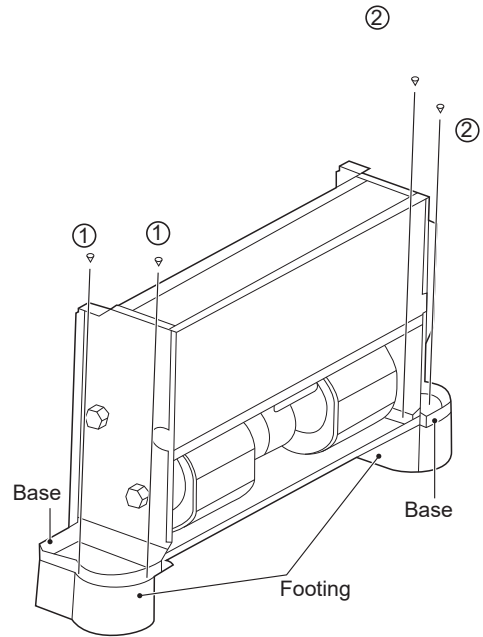

Figure 5-3
The footings shown in Figure 5-3 are optional. You can purchase them separately and install them as follows:
2. Place the mounting holes on the unit base into the corresponding footing locating pin and install screws (1)\*2 and (2)\*2 to fix the footing according to Figure 5-3.